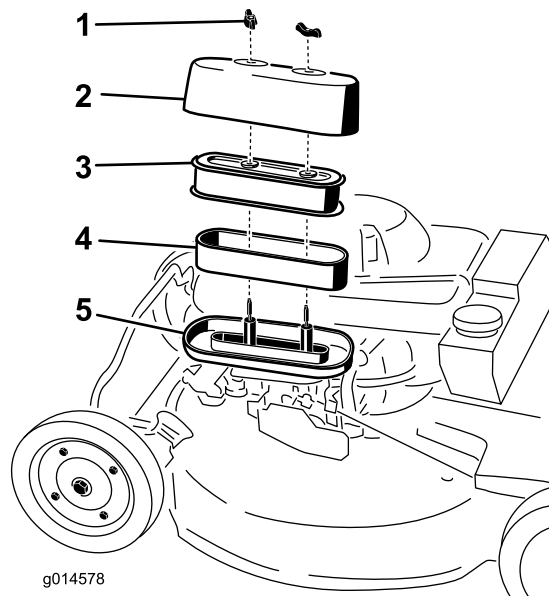

Figure 23
3. Remove the 2 nuts that secure the cover (Figure 23).
5. Remove the foam and paper elements from the base (Figure 23).
6. Remove the foam element from the paper element (Figure 23).